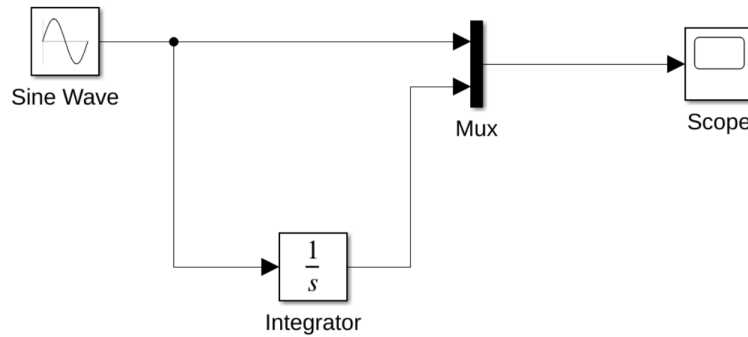

Figure 2.4: The Simulink Model
Figure 2.4 shows the block diagram of the completed model. We will analyze the step by step process of building the above model.
2. To create the simple model shown in Figure 2.4, you need four blocks:
3. Make the connections as Figure 2.4. The connection between Sine Wave block and Mux block is somewhat different from the other three. Because the output port of the Sine Wave block already has a connection, you must connect this existing line to the input port of the Integrator block. The new line, called a branch line, carries the same signal that passes from the Sine Wave block to the Mux block. To weld a connection to an existing line: